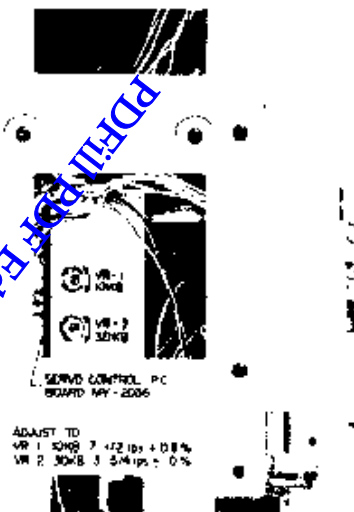

Fig. 14
2. TAPE SPEED ADJUSTMENT (Refer to Fig. 14)